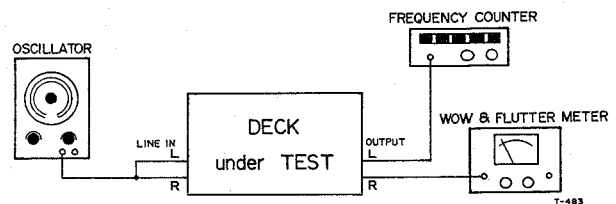

Fig. 5-8 Connection
1. Connect test equipment to the deck as shown in Fig. 5-8.